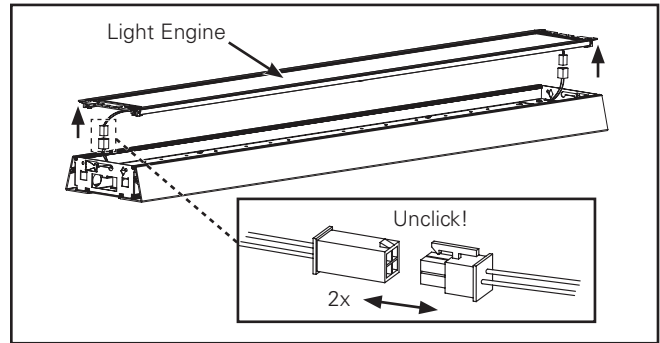
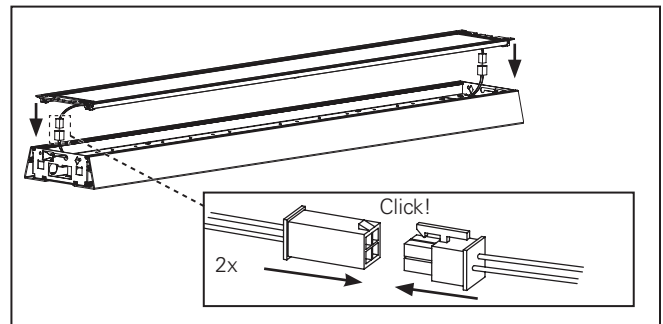
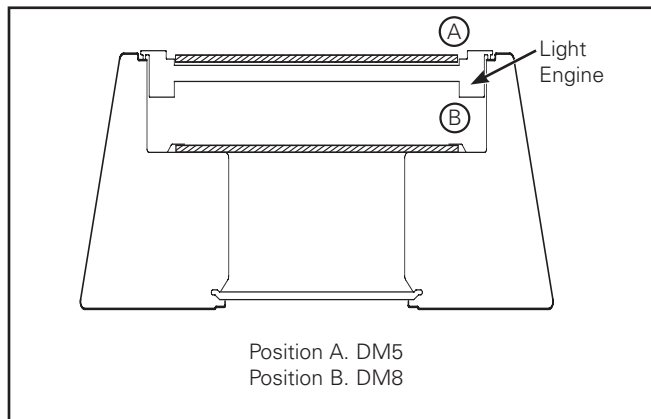

Figure 2.
Figure 11.
Figure 12.
2. Unclip the connectors on both ends of each LED light engine. (Figure 2.)
4. Snap connector together at both ends of each Light Engine. Any excess wire should be tucked back through the hole inside the fixture. (Figure 11.)
Note: DM Kit can be specified and factory installed or ordered separately and installed in the field. (Figure 12.)
2. If DM5 is being installed, secure the lens above the Light Engine - position A (Figure 12).
3. If DM8 is being installed, remove Light Engine as shown in Figure 2. Secure lens into position B (figure 12). Re-Install Light Engine as shown in (Figure 11).